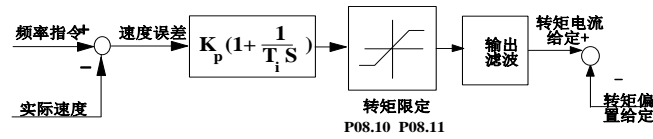

Figure 6-21: Speed adjustor Figure
1. Speed regulator (ASR) constituted as Figure6-21 shows. Figure in KP is the proportional gain P; TI is the integral time I.